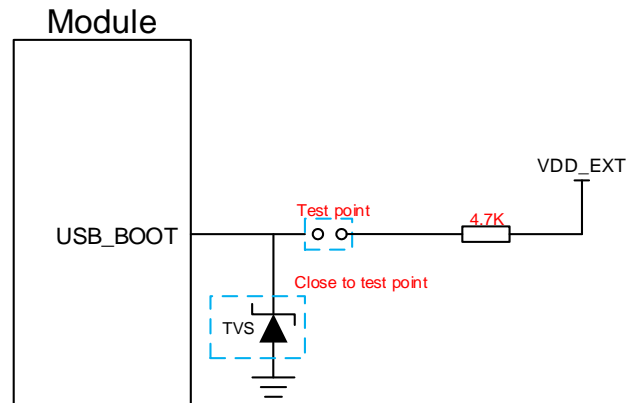

Figure 27: Reference Circuit of USB_BOOT Interface
2. When using MCU to control module to enter into the emergency download mode, follow the above timing sequence. It is not recommended to pull up USB_BOOT to 1.8V before powering up the VBAT. Short the test points as shown in **Figure 27** can manually force the module to enter into download mode.